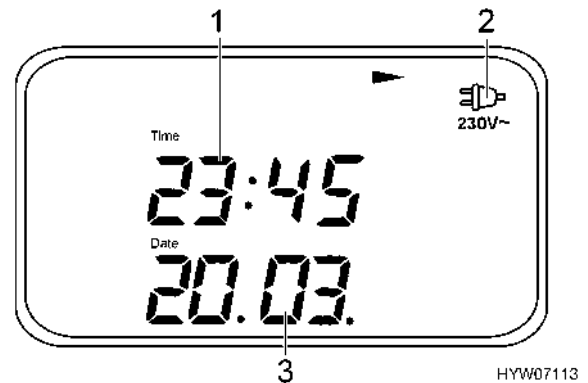

Fig. 113 Basic-menu (page 1)
The basic-menu (Fig. 113) is always shown after switching on with the 12 V main switch (Fig. 111,8). When keys are pressed the LCD display is lit automatically.
- Net control (Fig. 113,2): symbol appears when motorhome is connected to 240 V supply.
- Date (Fig. 113,3)
- Time (Fig. 113,1)